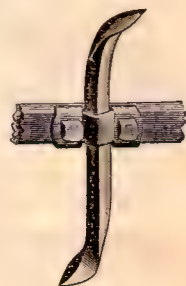

Fig. 87
**No. 2 "IRON AGE" Diamond Tooth Harrow.**—We also offer a modification of the above tool provided with 13 double ended teeth (see Fig 87). This is in response to a call from those who do not care for the several adjustments, but who wish the economy of the double end. **Price, with Lever and Wheel, as in cut, \$4.90; plain, \$3.50**